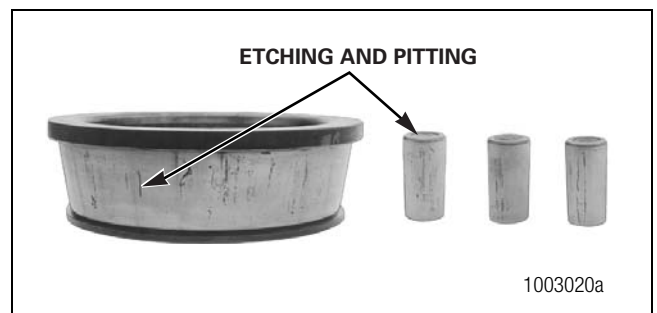

Figure 5.4
- The rollers and surfaces of the cup and cone inner race that touch the rollers are damaged. Figure 5.4.